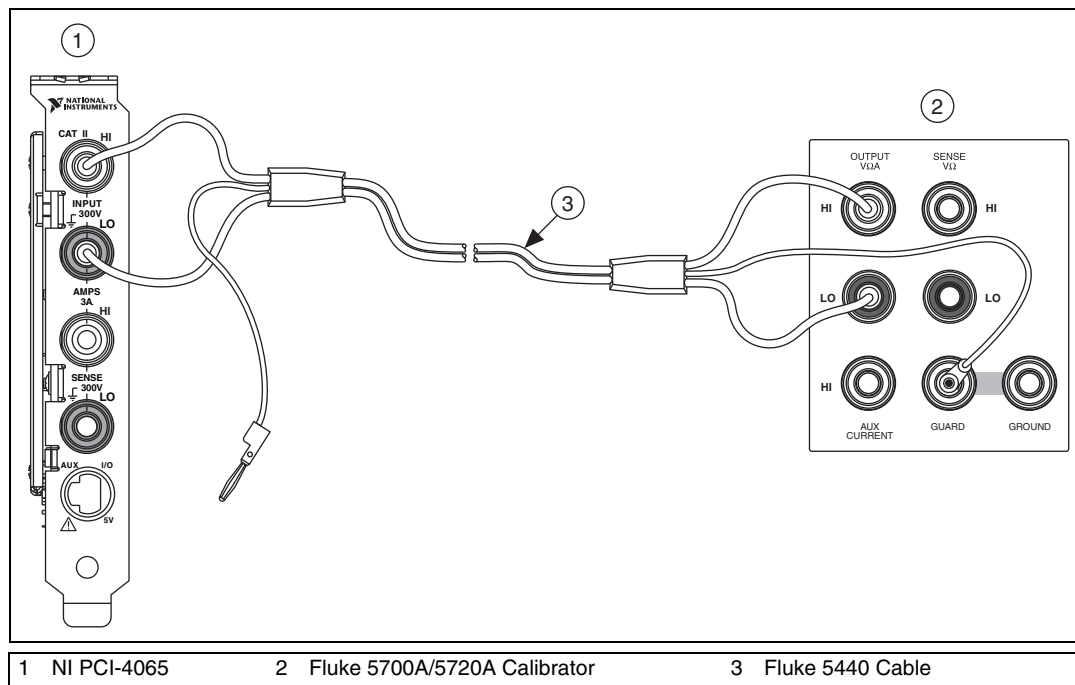
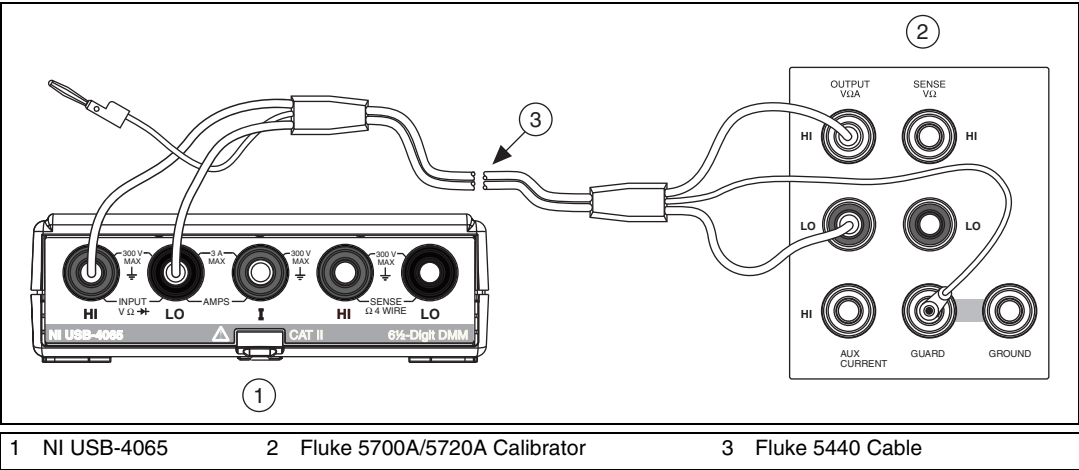

Figure 1. NI PXI/PCI/PCIE-4065 Cable Connections for Voltage and 2-Wire Resistance
Figure 2. NI USB-4065 Cable Connections for Voltage and 2-Wire Resistance
2. Connect the NI 4065 and the Fluke 5700A/5720A calibrator using the Fluke 5440 cable, as shown in Figure 1 for NI PXI/PCI/PCIE-4065 and Figure 2 for NI USB-4065. Table 2 lists the cable connections.